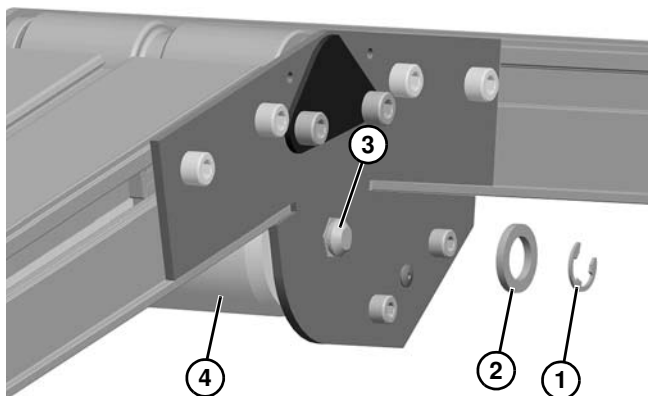

Figure 134
- a. For 2" (44 mm) through 4" (95 mm) wide conveyors, remove E-ring clip (**Figure 134, item 1**) and washer (**Figure 134, item 2**) from one side. Remove pulley shaft (**Figure 134, item 3**) and pulley (**Figure 134, item 4**).